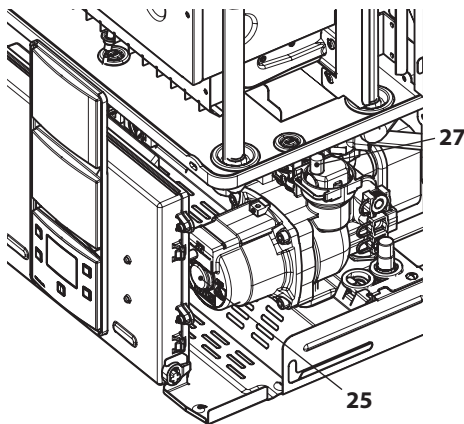

Figure 6.3
- Loosen the automatic bleed valve cap 27 in Figure 6.3.
- Remove the cap 25 in Figure 6.3 and release the pump by turning the rotor using a screw-driver.